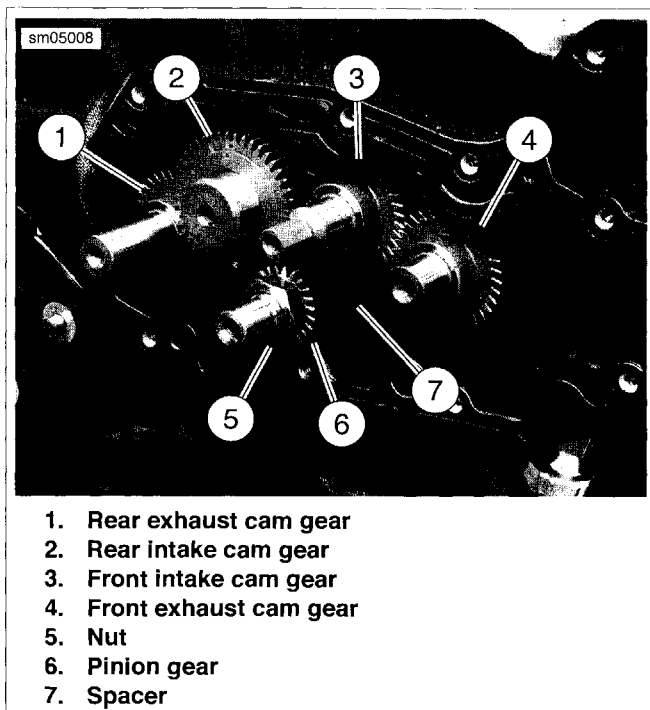

Figure 3-73. Cam Gears: XR Models
11. See Figure 3-73. Remove cam gears (1, 2, 3, and 4). Carefully mark each component to verify correct installation.